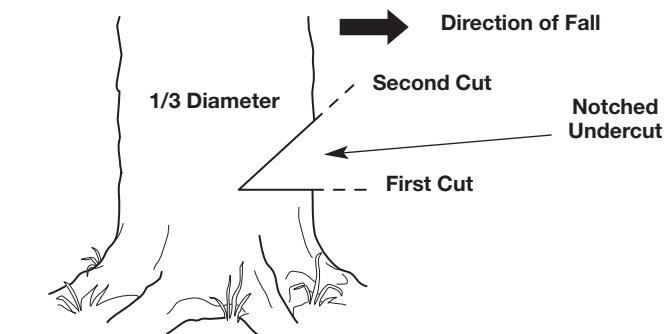

Fig. 12
1. Make a horizontal cut into the trunk of the tree (Fig. 12). The cut should be about 1/3 the diameter of the tree and close to the ground. To prevent the guide bar from being pinched by the weight of the wood, always make this cut first.
2. Make a 45° cut into the trunk of the tree, above the first cut (Fig. 12). Continue cutting until the two cuts meet.